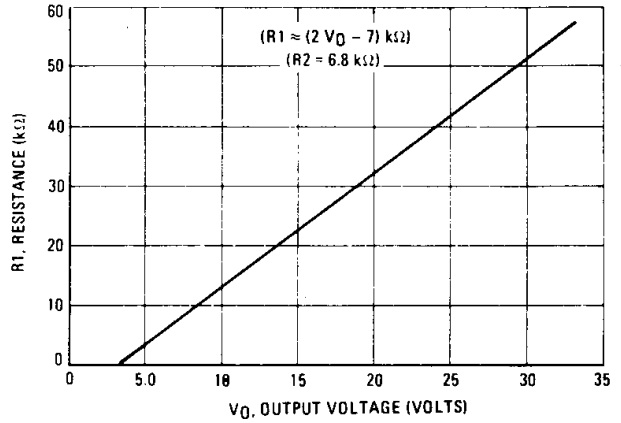

FIGURE 11 – R1 and R2 versus V_O
- b) For $2.5 \leq V_O \leq 3.5$ Vdc – Output voltage is set by resistors R1 and R2 (see Figure 5). Resistors R1 and R2 can be determined from the graph of Figure 11 or from the equations: